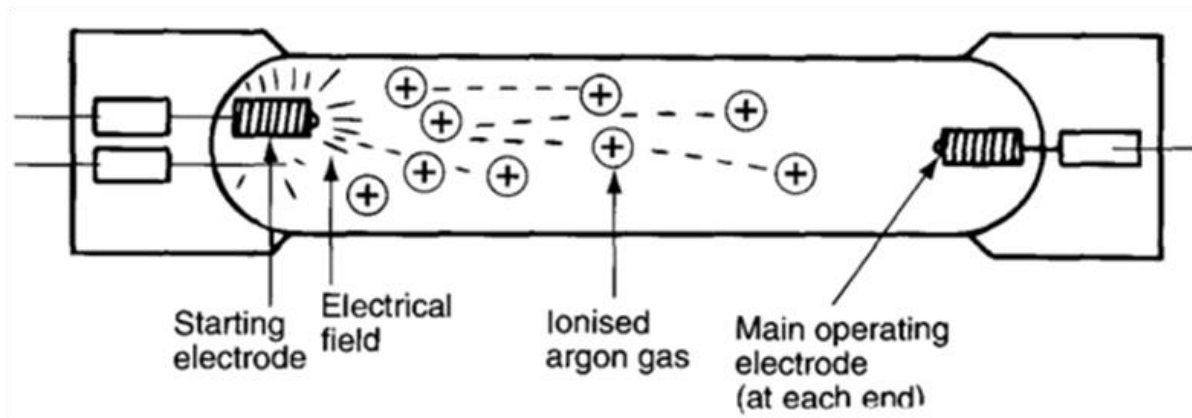

Fig. PF-7-2-6 Arc tube of a HID lamp
- **Fig. PF-7-2-6** shows the arc tube of a HID lamp.